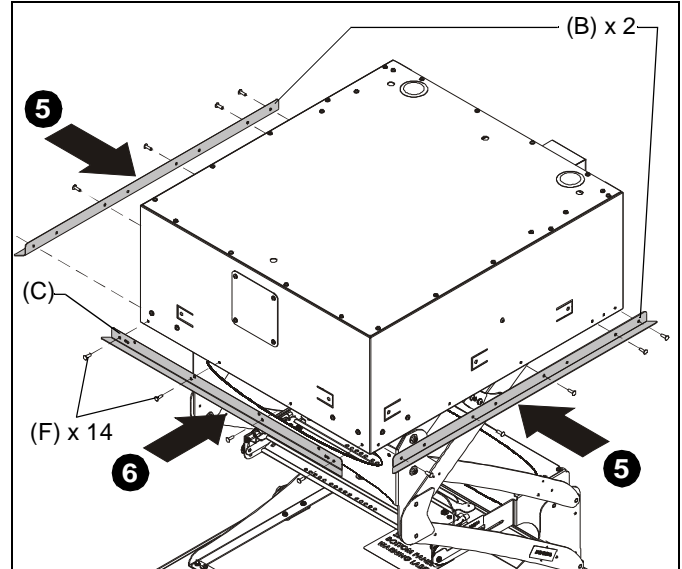

Figure 3
5. Place side trim pieces (B) on sides and rivet in place with rivets (F). (See Figure 3)
6. Place one end trim piece (C) on front and rivet in place with rivets (F). (See Figure 3)